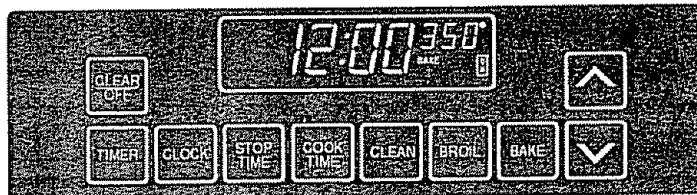

Fig. 6
**NOTE:** The display will show ON and the oven temperature as the oven heats up. When the oven reaches the set temperature a tone will sound. See Fig. 6.